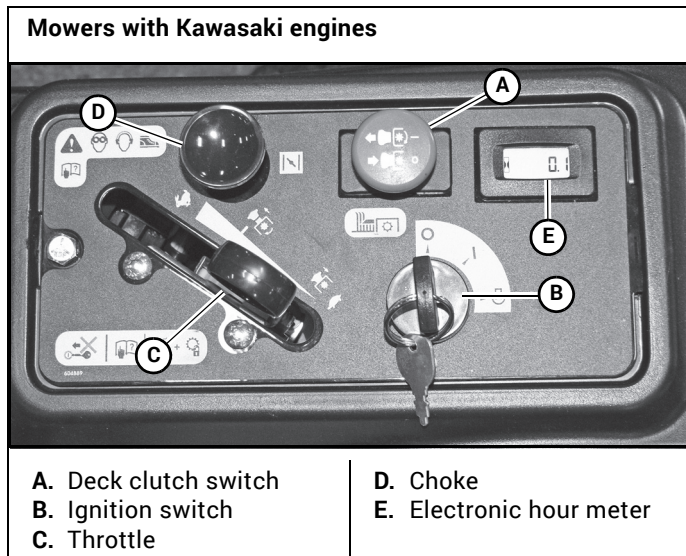
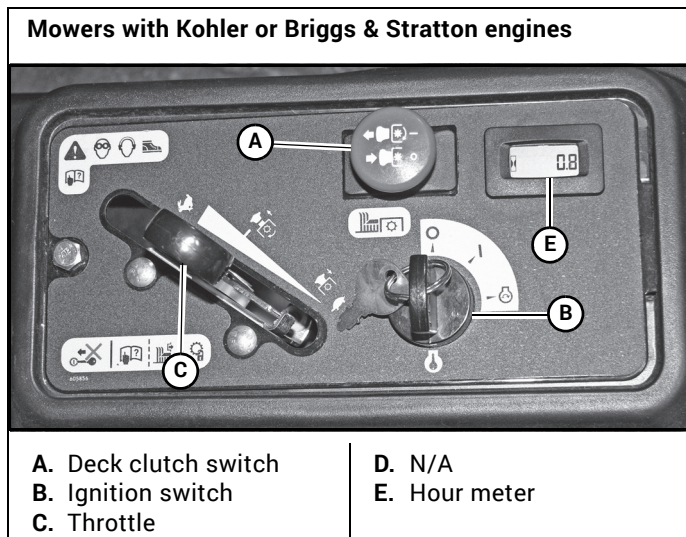

Figure 3-1
Figure 3-2
- A. Deck clutch switch (Figure 3-1 & Figure 3-2)** — this switch engages the deck. Pull the switch up to engage and push the switch down to disengage the clutch.
- B. Ignition switch (Figure 3-1 & Figure 3-2)** — a three position switch: "OFF", "RUN", and "START". With the key inserted, rotate it clockwise to the "START" position; release the key when the engine starts, and the switch will automatically return to the "RUN" position
- C. Throttle control (Figure 3-1 & Figure 3-2)** — a cable is linked to the engine throttle for controlling engine speed. Move the lever forward to increase engine rpm, move the lever rearward to decrease engine rpm.
- D. Choke control (if equipped) (Figure 3-1)** — a cable is linked to manually operate the engine choke. When the lever is in the down position, the choke is in the "OFF" (run) position. When the knob is pulled up, the choke is in the "ON" (start) position. **Do not** operate the machine in the "ON" (start) position.
- E. Electronic hour meter (Figure 3-1 & Figure 3-2)** — registers 1/10 hour increments up to 9,999.9 total hours. Connected to the ignition switch, the meter records the accumulative time while the ignition key is switched to the RUN position.